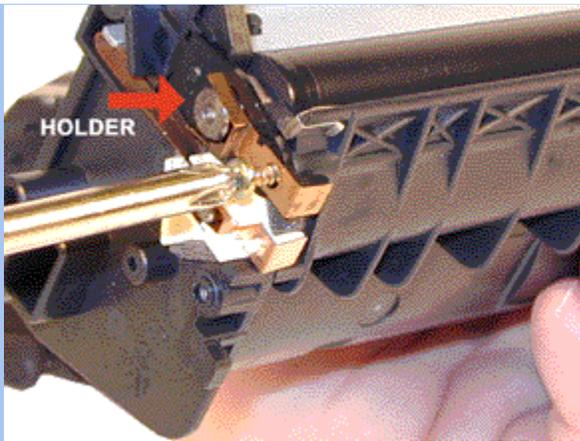

FIGURE 40
32. Replace the screw, holder, and contact on the left side of the developer roller shaft. See Figure 40